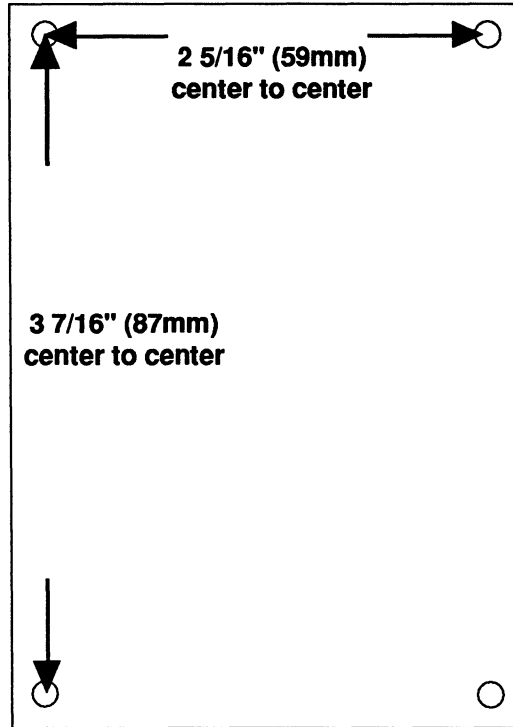

Figure 5 Voltage Divider Mounting Template and Screw - Hole locations
3. Remove voltage divider template from page 8 (Figure 5) and punch out the four mounting holes. Check dimensions as provided on template.